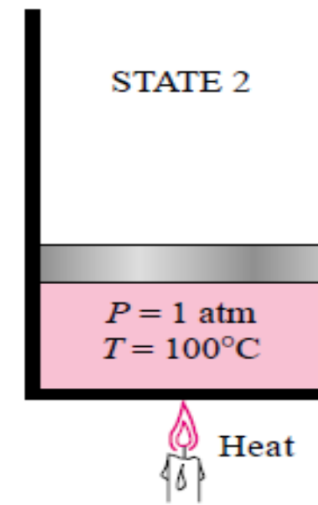

Fig. 3.3: At 1 atm pressure and 100°C, water exists as a liquid that is ready to vaporize (*saturated liquid*).
- As more heat is transferred, the temperature will keep rising until it reaches 100°C (*state 2, Fig. 3.3*). At this point water is still a liquid, but any heat addition will cause some of the liquid to vaporize. That is, a phase-change process from liquid to vapor is about to take place. A liquid that is *about to vaporize* is called a *saturated liquid*. Therefore, state 2 is a saturated liquid state.